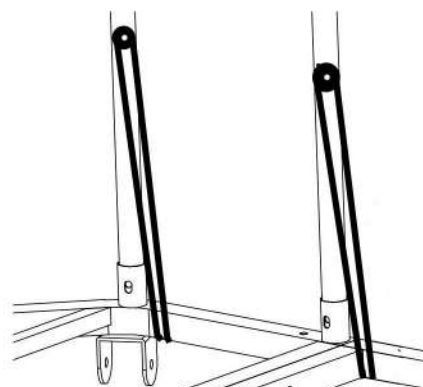

Figure 20 B Bottom Bungee
Step 20. Once the zipper is completely closed and the fabric is even with the top of the roof main frame and the buckles line up with the uprights and the roof ribs you can begin connecting all the bungee as seen in Figure 20- A and 20- B Connect one bottom bungee then the corresponding top bungee until they are all connected.